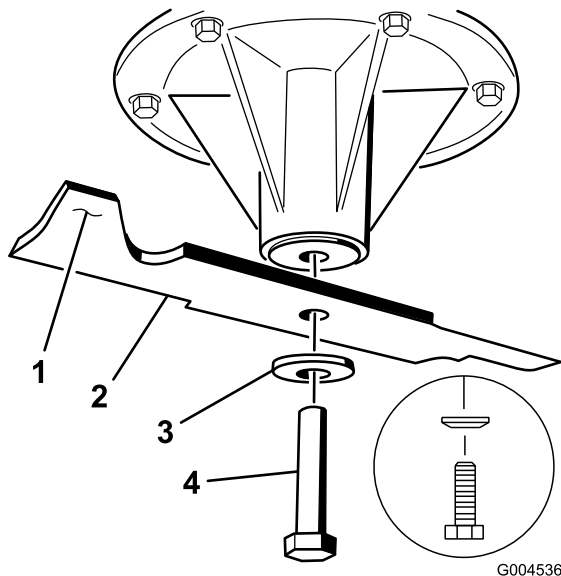

Figure 51
2. Remove the blade bolt, curved washer, and blade from the spindle shaft (Figure 51).
balanced, file some metal off the end of the sail area only (Figure 51)
1. Install the blade onto the spindle shaft (Figure 51).
Important: The sail part of the blade must be pointing upward, toward the inside of the mower to ensure proper cutting (Figure 51).
2. Install the blade, curved washer, and blade bolt (Figure 51).